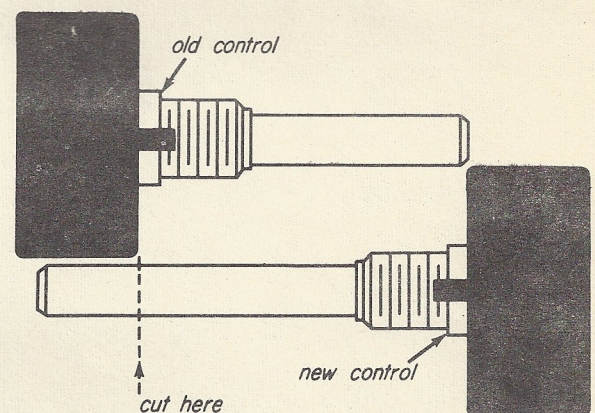

Fig. 13-19
7. Make sure that the replacement control has a shaft similar to that which it replaces, so that the control knob may be properly attached. The new shaft may not be of the same length as the old one, so it may be necessary to remove (with a hacksaw) some of the new shaft to bring it down to the length of the old one. On the new shaft, measure off the length of the old shaft, as in Fig. 13-19. Then remove the excess with your hacksaw.